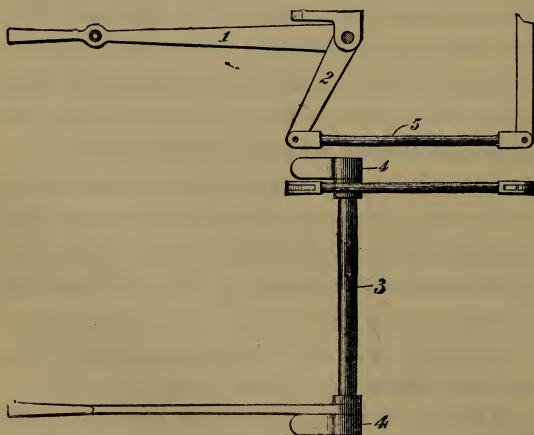

Fig. 385. Whistle Work.
A. The bell (Fig. 384) and the whistle (Figs. 385 and 386).